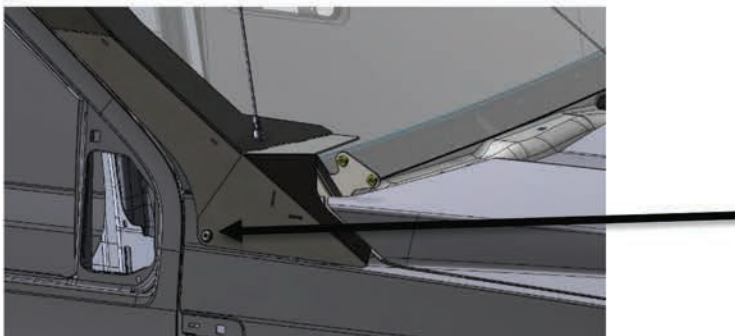

Fig 17
- d. Mark the Rivnut hole location as indicated in Fig 17 by the black arrow and on both driver and passenger arms.